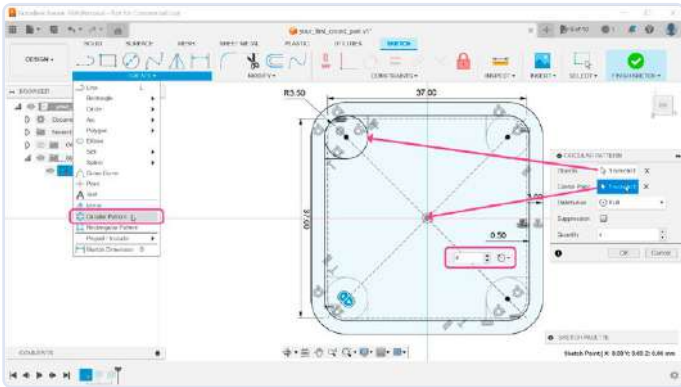

Figure 11: Replicating the support for the other three corners.
11) Three more supports are needed, but instead of drawing those manually, we can use some tools to duplicate the current support. An obvious choice might be the *Mirror* tool (CREATE → *Mirror*). However, a one-click solution, in this case, is the *Circular Pattern* tool, also located in the *CREATE* menu. With the tool active, we need to select the circle and two lines (Figure 11). Click the *Select* button next to the center point, and select the origin point. For *Quantity*, enter a value of 4.